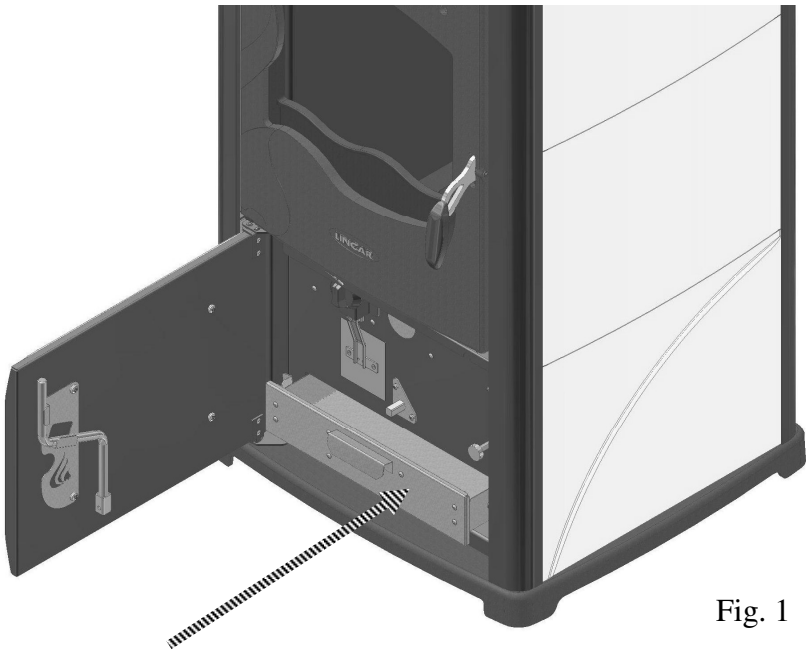

Fig. 1
- Put on the brazier lighting-cube or a small quantity of paper, around 0,5 kg of wood in small pieces. Put the knob of the water thermostat at max. position. Light the paper and close the foyer door. If necessary open the ash drawer door and shift a little bit the drawer as indicated in Fig. 1.
- Open the door and extract a little bit the ash drawer as shown in picture Fig. 1